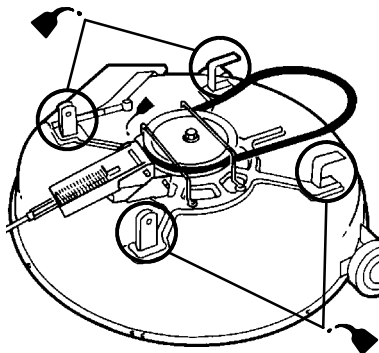

Figure 21
3. Lubricate the mower mounts (Fig. 21). Wipe up any excess oil.